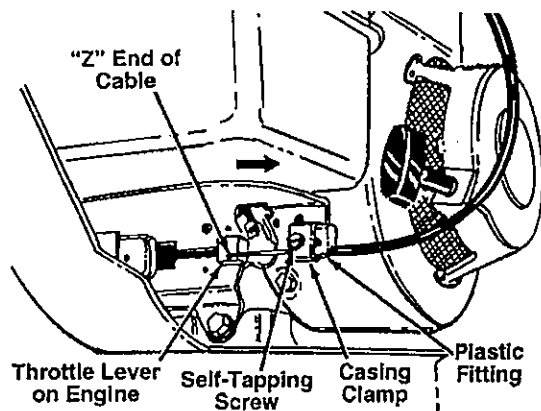

FIGURE 3
2. Remove the cable clamp shown in figure 3 by removing the self-tapping screw.
3. Hook the "Z" end of the throttle control cable into the hole in the control lever on the engine as shown in figure 3.
5. Pull the throttle control cable so the throttle lever on the engine is in the full open position (all the way toward the right side of the unit) as shown in figure 3. Tighten the self-tapping screw to secure the cable in this position.